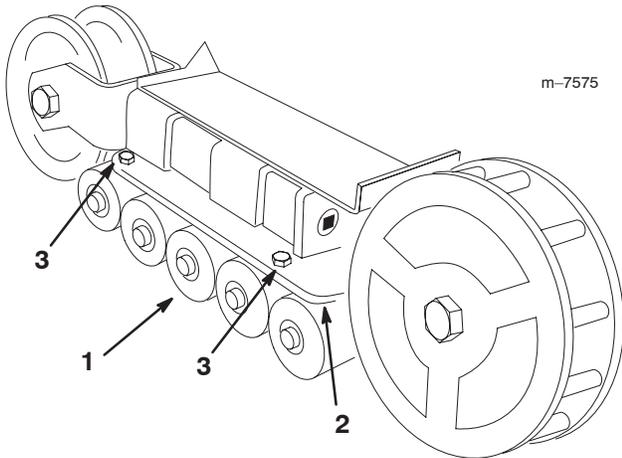

Figure 47
2. Remove the 4 bolts securing each lower track guide which contains the road wheels, and remove them (Fig. 47).